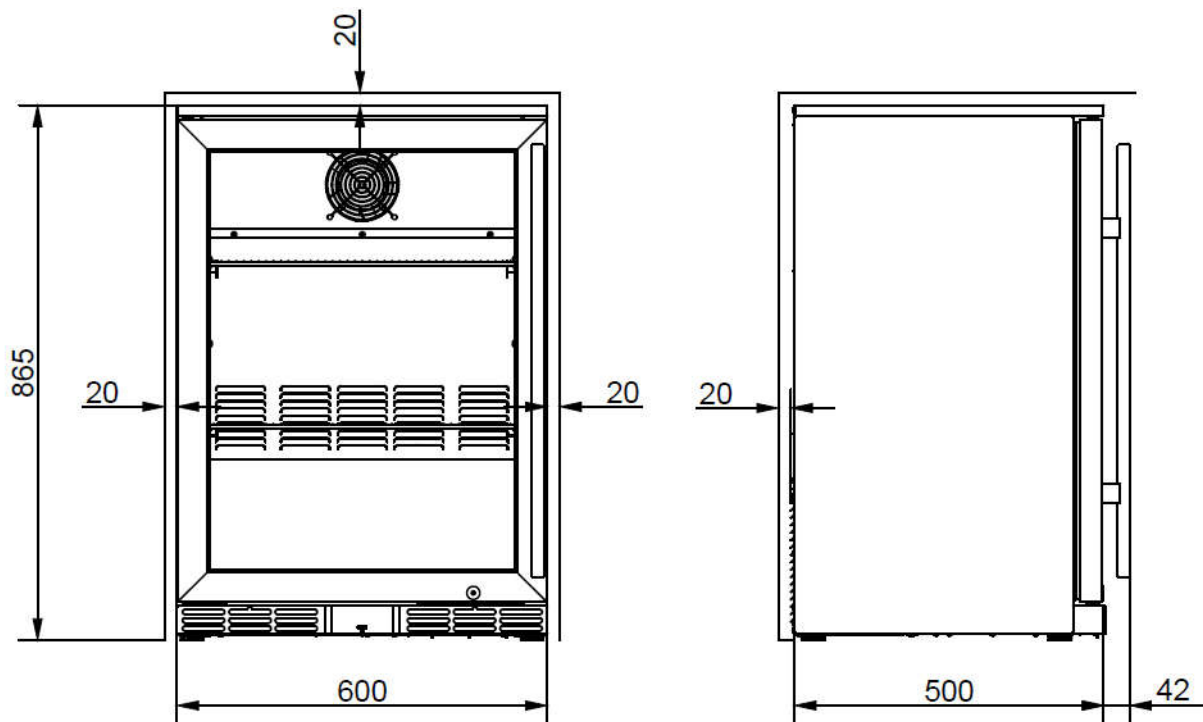

Figure 2
- The appliance requires a minimum ventilation space at sides top and rear of 20 mm. The front grille must be completely unobstructed. See Figure 2.